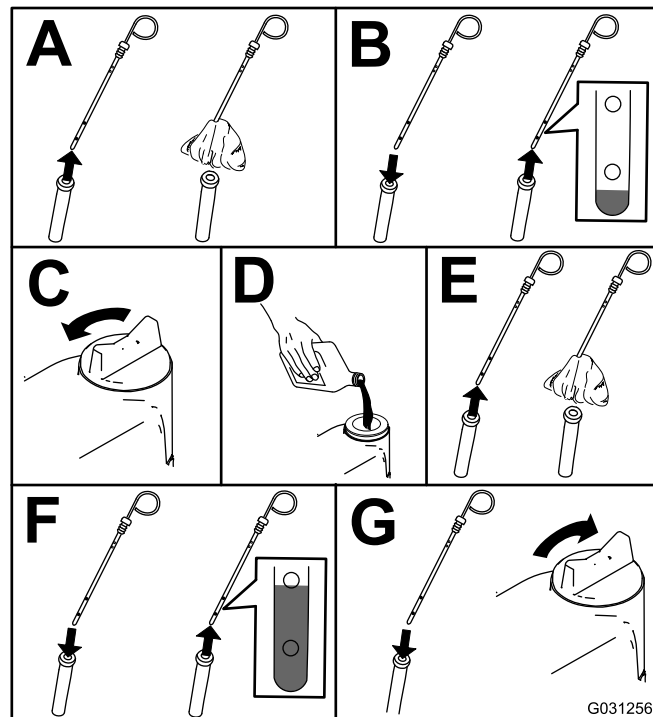

Figure 52
2. Check the engine-oil level; refer to Figure 52.